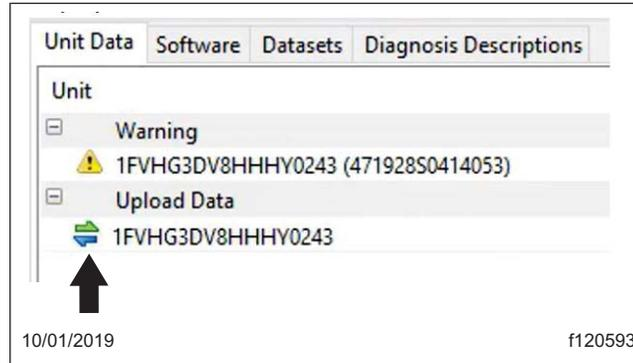

Fig. 8, Upload Data Symbol
16. DiagnosticLink will return to the "Program Device" page. The "Upload Data" symbol is displayed next to the VIN. Fig. 8.